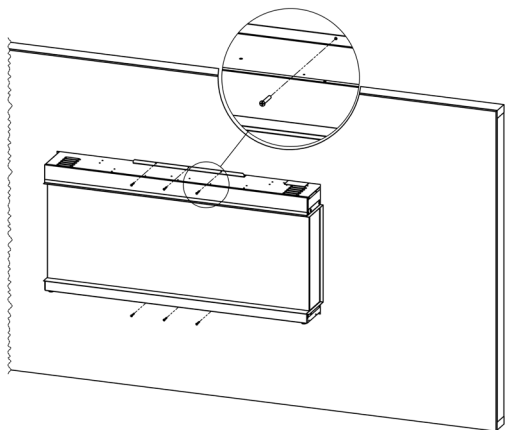

Fig. 3-3
- Fasten the fireplace to the framing using the “L” Metal Nailing Flanges and drywall screws that have a minimum length of 1-1/4” (Fig. 3-3).